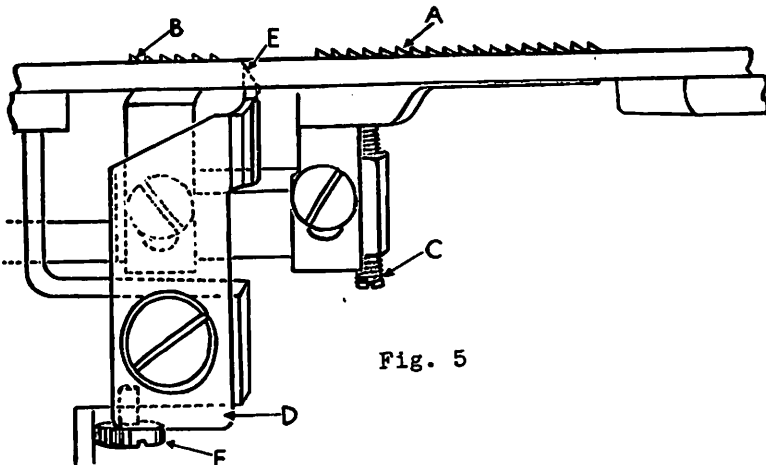

Fig. 5
The front feed dog (A, Fig. 5) should be set so that at its highest point of travel, it projects the full depth of the teeth above the throat plate. Height adjusting screw (C) for the front feed dog is set in the feed bar so that the screw driver slot is toward the bottom of the machine which makes for easier adjustment when machine is in operating position.
Lower tape cutter knife (D, Fig. 5) should be set in the holder so that the knife edge (E) is located flush with the top of the throat plate. Adjusting screw (F) is used to raise the knife to its proper height and maintain this height when in operation.